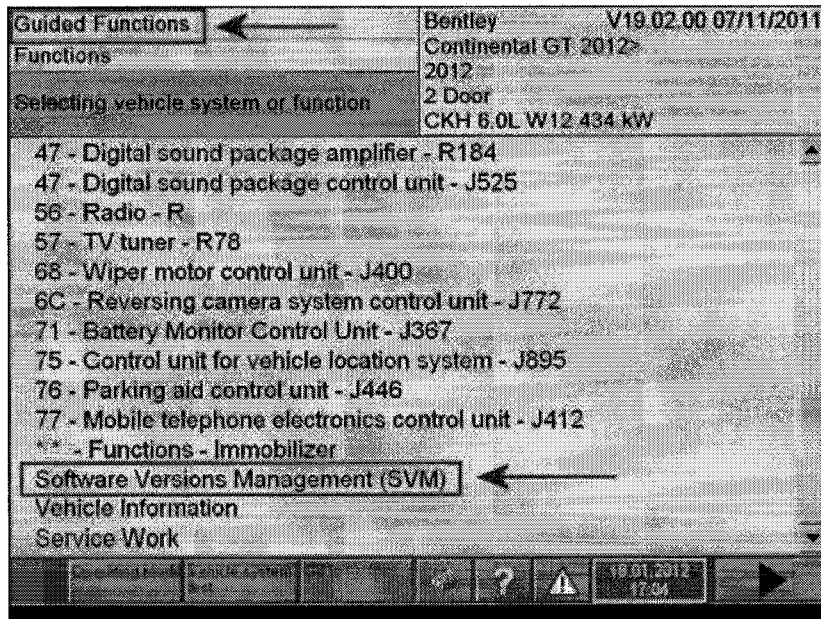

Figure 13
13. Select *Software Version Management (SVM)* within Guided Functions (see Figure 13)